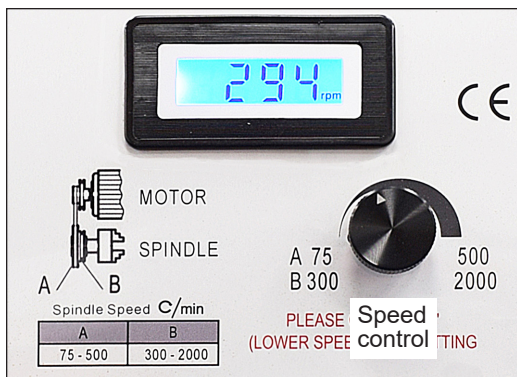

Figure 1-3 Speed control
6. Set the spindle speed knob, Figure 1-3, fully counter clockwise, lowest speed, .
13. Press the GREEN Motor ON button. The spindle should turn forward, counter clockwise, viewed from the tailstock end. If nothing happens, turn the speed control knob a few degrees clockwise, Figure 1-3.